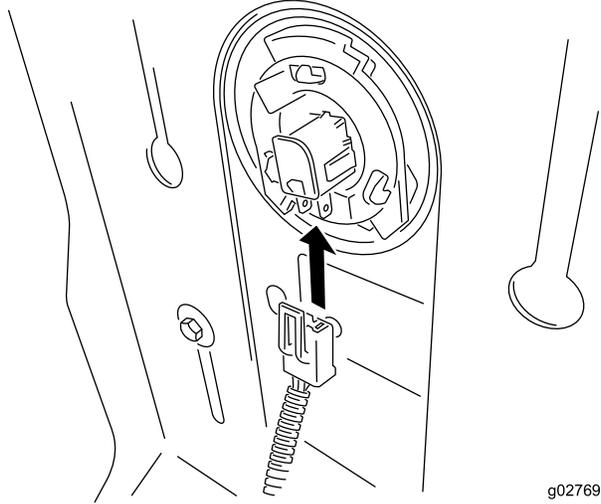

Figure 7
2. Connect the seat switch (Figure 7).